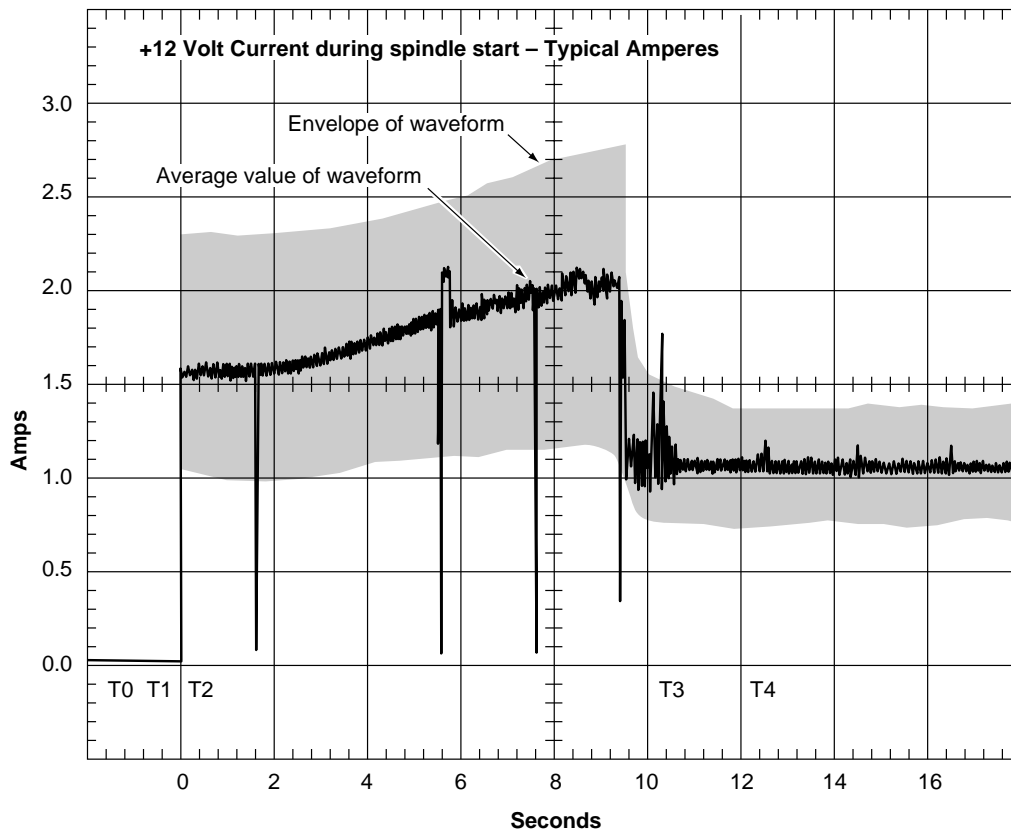
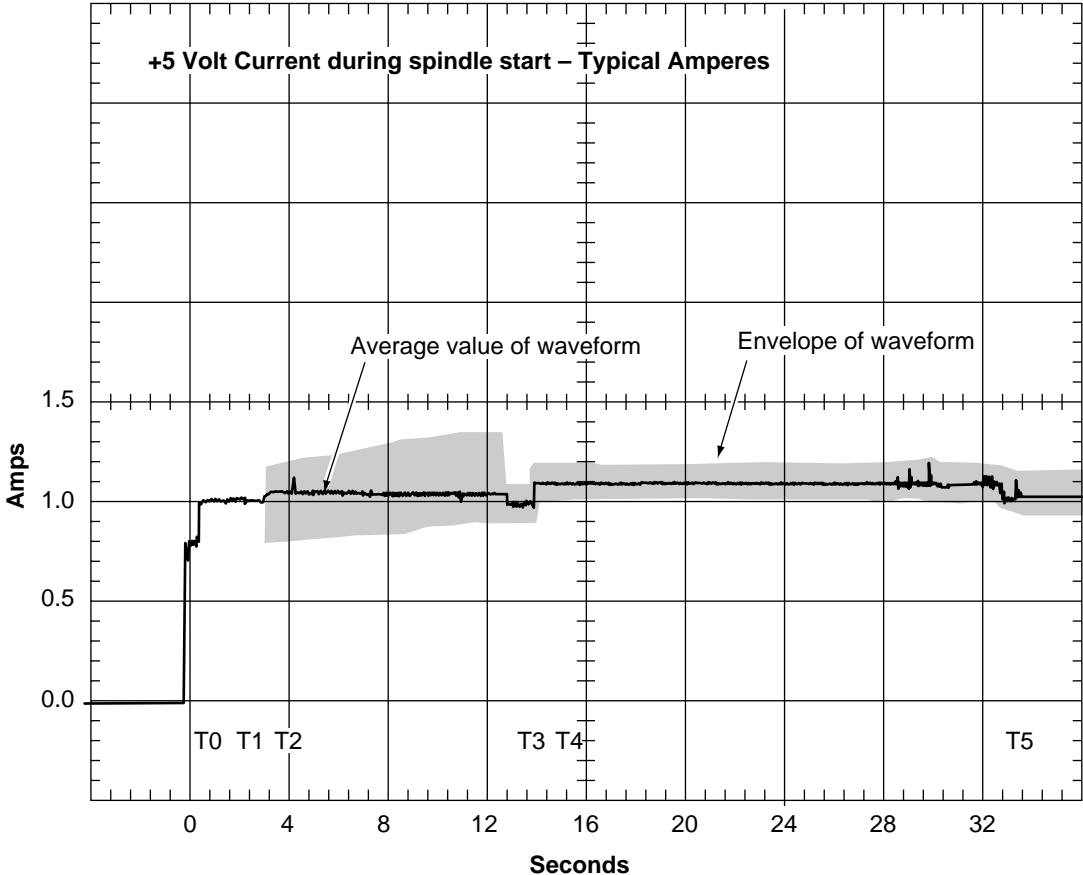

Figure 3. Typical Cheetah 36FC drive +12V current profile
Figure 4. Typical Cheetah 36FC drive +5V current profile
- [3] See +12V current profile in Figure 3.
Figure 3 identifies the drive +12V current profile and Figure 4 identifies the drive +5V current profile. The current during the various times is as shown: